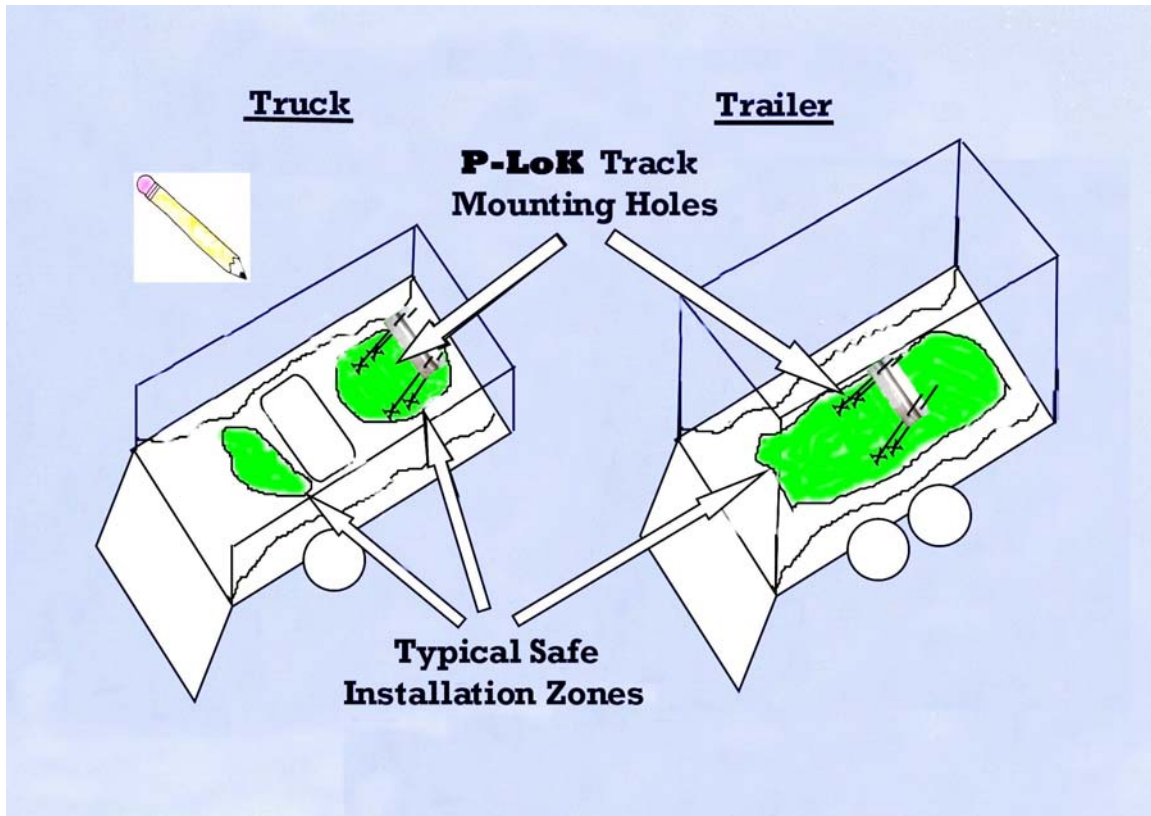

Figure 6: **P-LOK™** Track Mounting Holes (Marked)
Step 3: With the **P-LOK™** Track positioned in a safe installation position and flat on the truck or trailer bed, mark the four track mounting holes to be drilled (see figure 6).